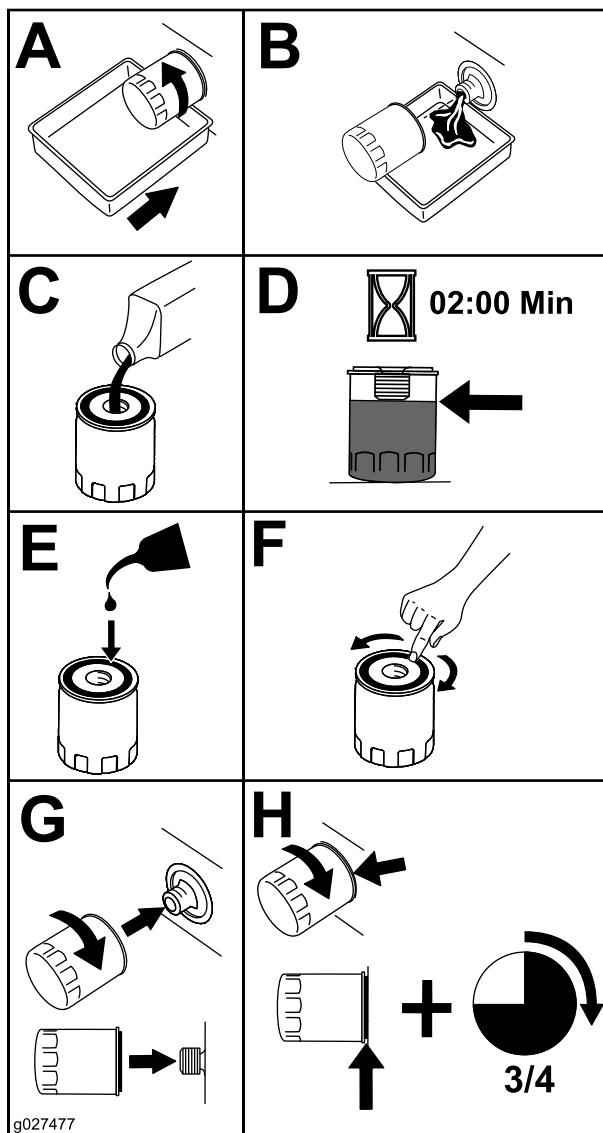

Figure 38
5. Change the engine-oil filter as shown in Figure 38.